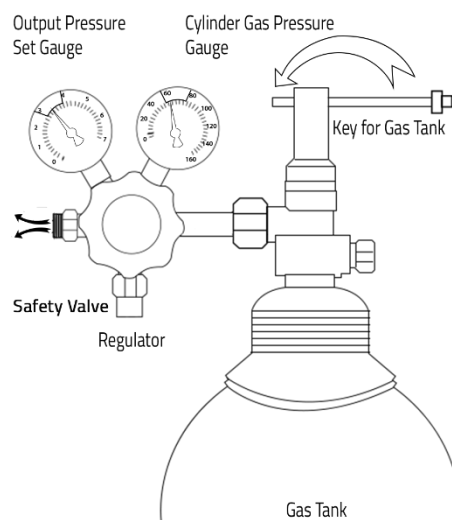

Figure 20
- Attach the appropriate regulator to the cylinder as shown in figure 20. Then, gently open the gas knob for a few seconds to release some amount of the gas. By this, we can remove any dust or foreign particles that remain inside the regulator.